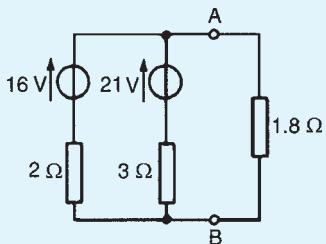

Figure 13.78
3. (a) Convert the network to the left of terminals AB in Fig. 13.78 to an equivalent Thévenin circuit by initially converting to a Norton equivalent network.
- (b) Determine the current flowing in the  $1.8\Omega$  resistance connected between A and B in Fig. 13.78